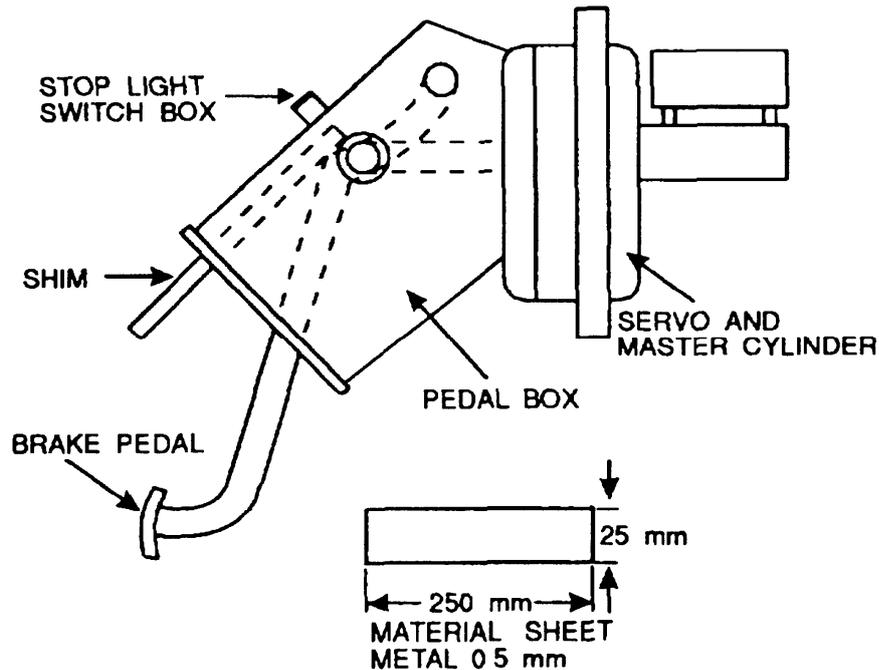

Figure 140 Pedal Free Travel Inspection
- d. Manufacture a shim as detailed in Figure 140.
- e. Depress the brake pedal slightly and position the shim between the brake pedal and the brake light switch box (Figure 140).